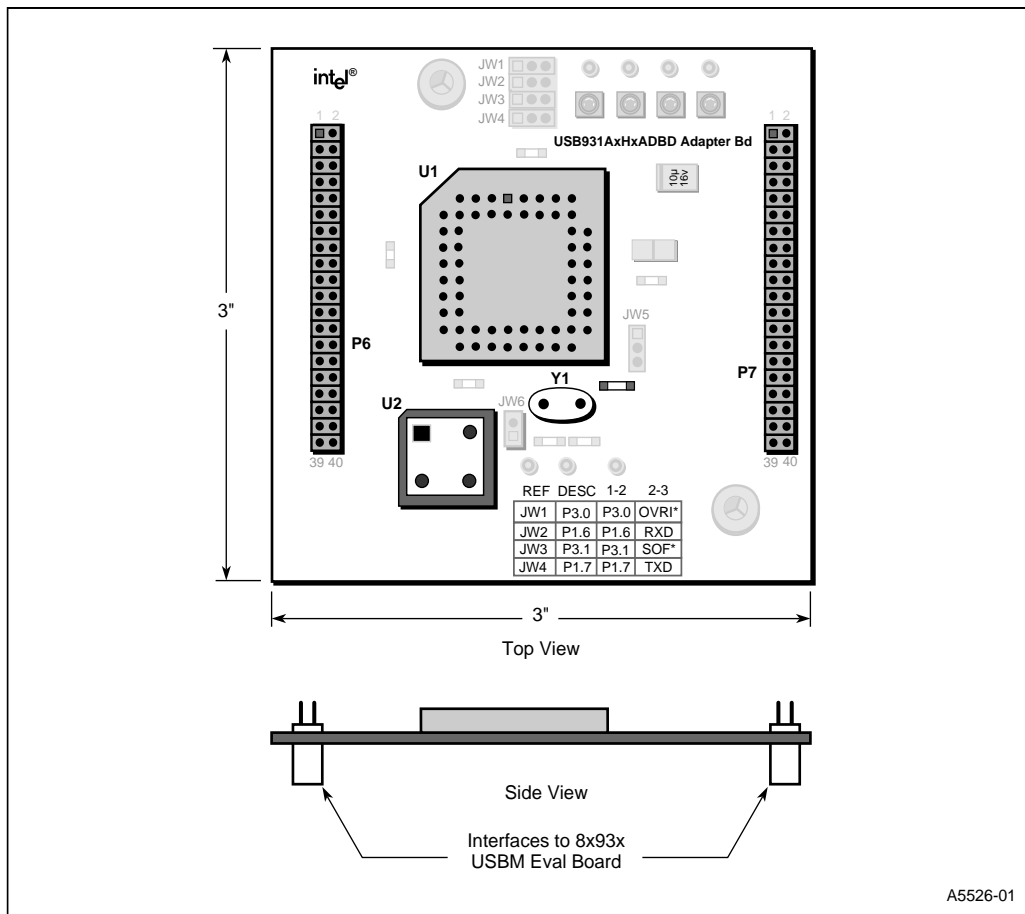

Figure 4. Adapter Board Layout
1. Remove the 8x931Hx device installed on the USB931AxHxADBD adapter board from the U1 socket. Refer to Figure 4 for the location of socket U1.
Figure 4 shows the layout of the board and its major components.